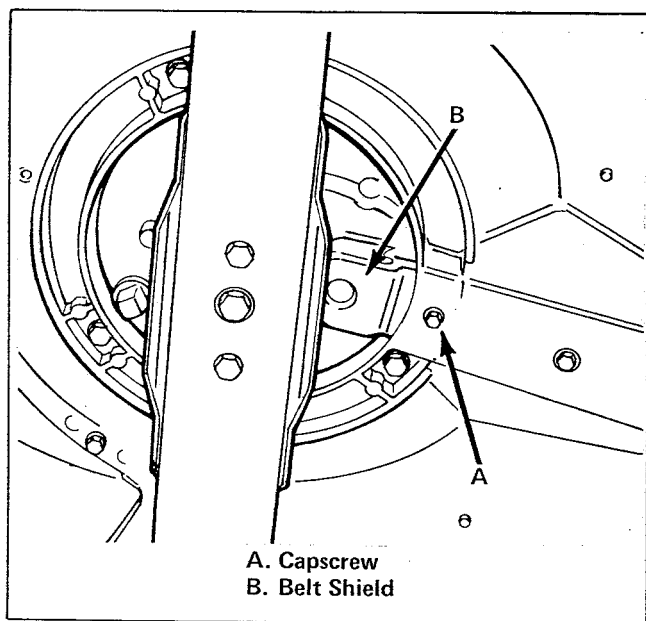

Figure 34. Removing Belt Shield
2. Lift mower up from the spark plug side as directed on decal. Remove capscrew (item A, figure 34) holding on the belt shield (item B).